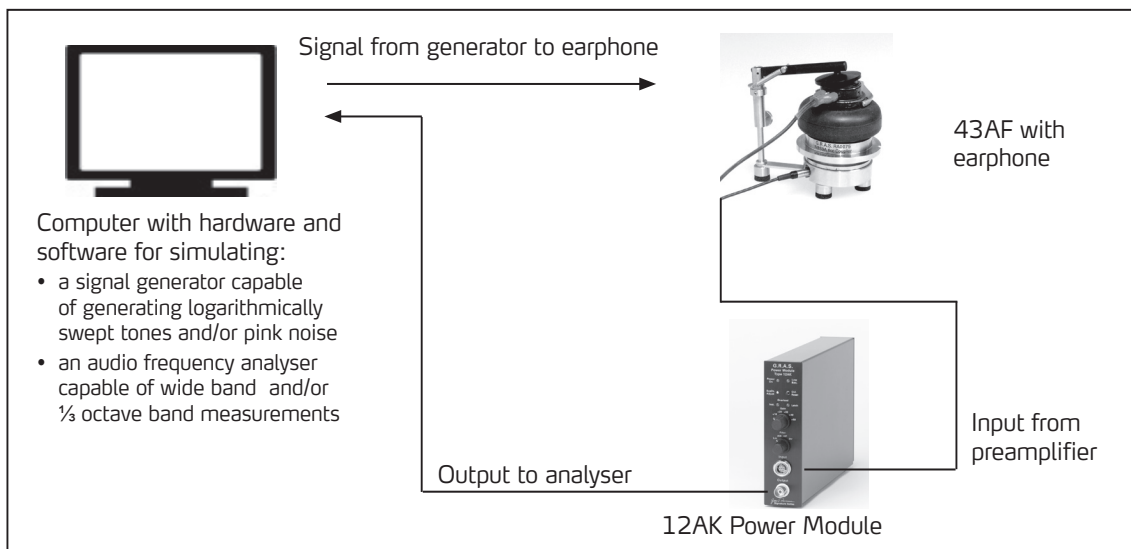

Fig. 3. Block diagram of a complete set-up for making tests
Items 3 and 4 could be combined in the same unit, e.g. a computer fitted with suitable hardware and software for A/D and D/A conversions in order to simulate both a signal generator and an analyser. Fig. 3 shows a block diagram of a possible set-up for making tests.
- 1) Setting up the test jig, e.g. as shown in Fig. 3